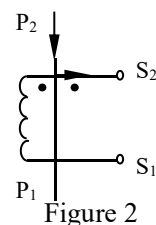

Figure 2
② The coil diagram is shown in Figure 2 on the right